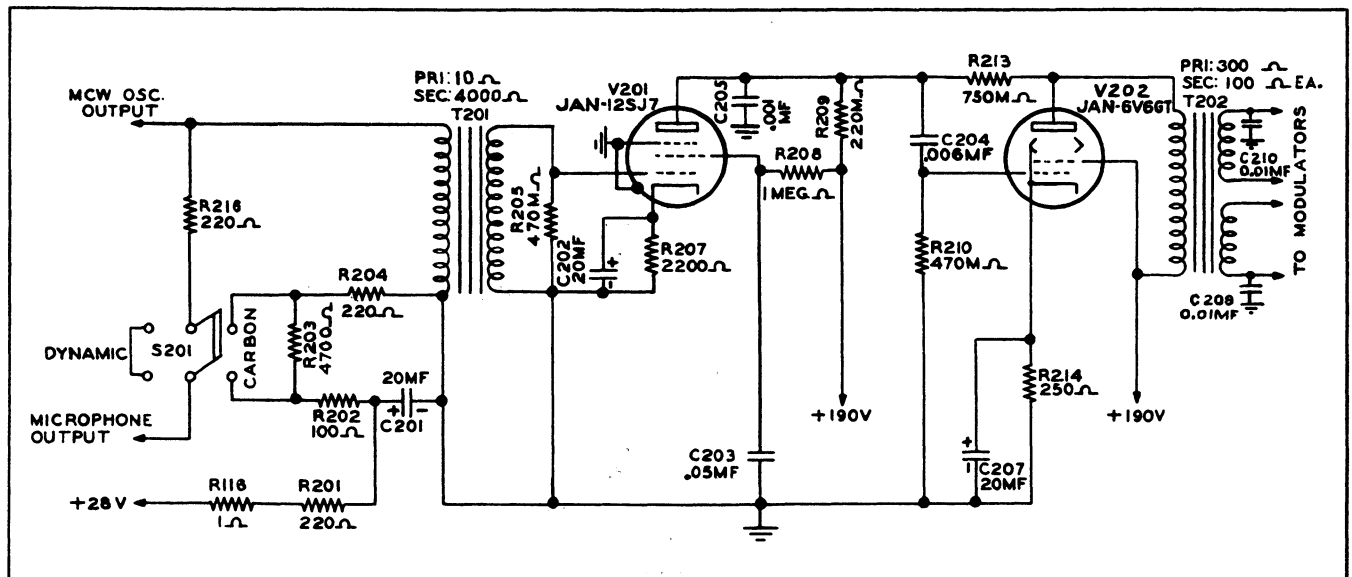

Figure 4-6. Speech Amplifier Circuits
e. AUDIO CIRCUITS.—The audio system consists of a two stage speech amplifier, push-pull modulators, a sidetone amplifier, and an "MCW" audio tone oscillator. See simplified circuit in figure 4-6.
(1) SPEECH AMPLIFIER.—Either of two types of microphones may be used with this equipment. The input to the speech amplifier has been designed so that by operating a switch, proper connections are made to the "MICROPHONE" jack J102, to match the output of either a carbon or dynamic type of microphone. The